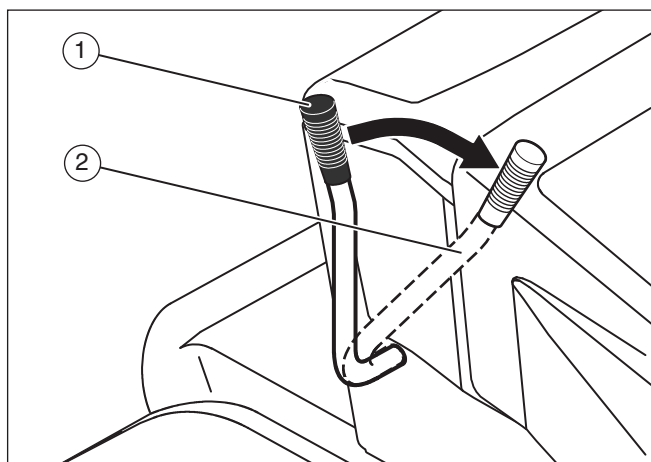

Figure 23
2. Move the blade rotation control to the DISENGAGE position (1) (see **Figure 23**).
10. Move the blade rotation control to the ENGAGE position (see **Figure 23**).